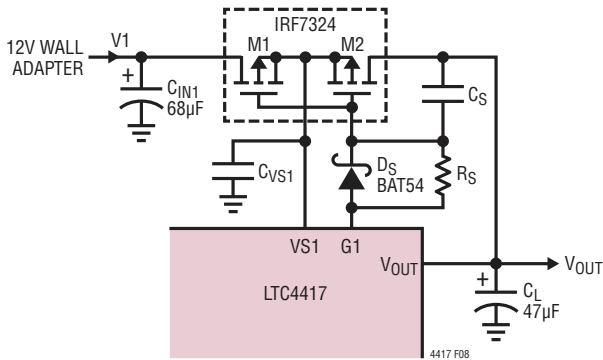

Figure 8. Slew Rate Limiting Gate Drive
Equation (13) assumes no inrush current limiting circuitry is required. If it is required, refer to Figure 8 and use the following Equation (14) for CL.
where  $R_S$  and  $C_S$  are component values shown in Figure 8. The selection of  $R_S$  and  $C_L$  involves an iterative process. Begin by assuming  $0.79 \cdot R_S \cdot C_S = 10\mu\text{s}$  and choosing  $C_L$  using Equation (14). See the Inrush Current and Input Voltage Droop section for more details regarding inrush current limiting circuitry, and for selecting  $R_S$ .
In situations where input and output capacitances cannot be chosen to set the desired maximum input voltage droop, or the peak inrush current violates the maximum Pulsed Drain Current ( $I_{\text{DM}}$ ) of the external P-channel MOSFETs, inrush current can be limited by slew rate limiting the output voltage. The gate driver can be configured to slew rate limit the output with a resistor, capacitor and Schottky diode, as shown in Figure 8. The series resistor  $R_S$  and capacitor,  $C_S$ , slew rate limit the output, while the Schottky diode,  $D_S$ , provides a fast turn off path when G1 is pulled to VS1.